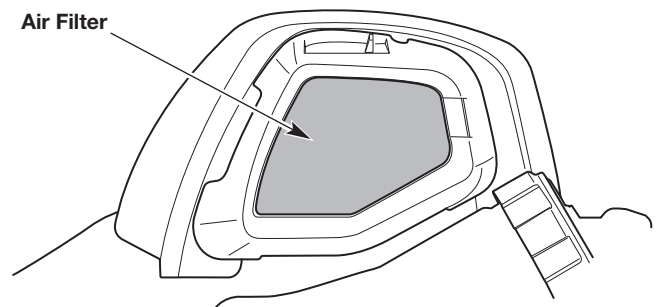

Fig. 23
2. Remove the air filter (Fig. 23).
6. Reinstall the air filter (Fig. 23).